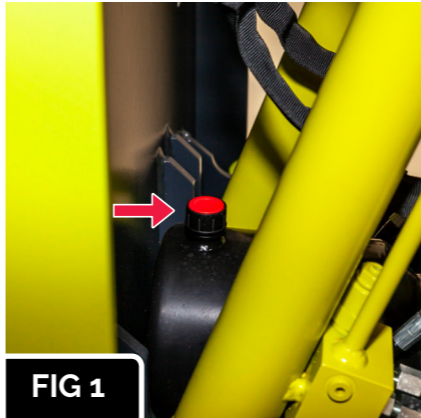

FIG 1
- Lower skip fully to access the dipstick (fig 1). Remove the key from ignition and engage the emergency stop button.